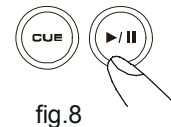

fig.8
- (1) By rapidly pressing the CUE button
- a. Press PLAY/PAUSE button so that music is playing. PLAY/PAUSE LED will light (figure 8).